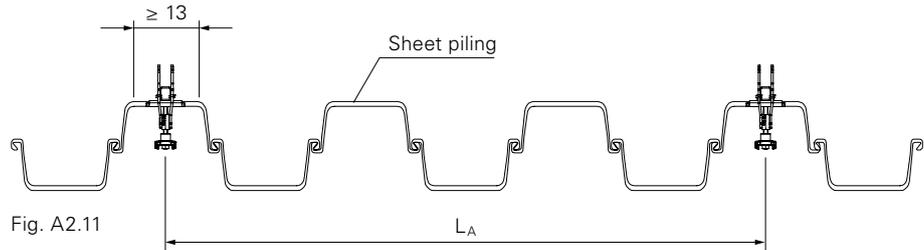

Fig. A2.11
- Centre distance L_A depends on the length of the Side Mesh Barrier, see section Selection. (Fig. A2.11)
- Support area of the sheet piling: ≥ 13 cm. (Fig. A2.11)